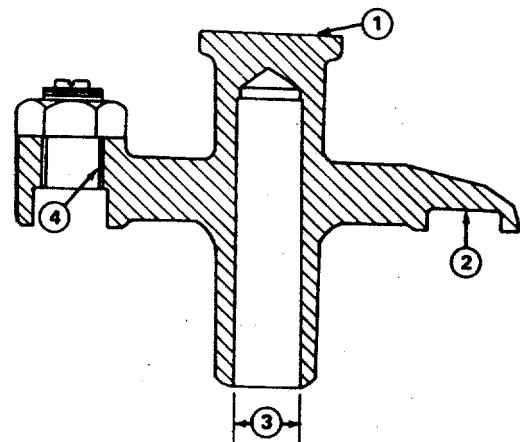

Figure 13-43. Crosshead Dimensions
- (8) Check guide outside diameter with micrometers. See tabulated data in Chapter 1 for worn replacement limits.
- (9) Check guide for straightness. It should be at right angles with milled surface of head. Replace if not straight.
- (10) Check crosshead guide protrusion above cylinder head. Protrusion should be 1.860 to 1.880 inch (47.24 to 47.75 mm).
- (11) Check stem inside diameter (3, figure 13-43) using a small bore gauge set at 0.4402 inch (11.181 mm). Use as a "No Go" gauge to check for wear beyond replacement limit.
- (12) Check for out-of-round